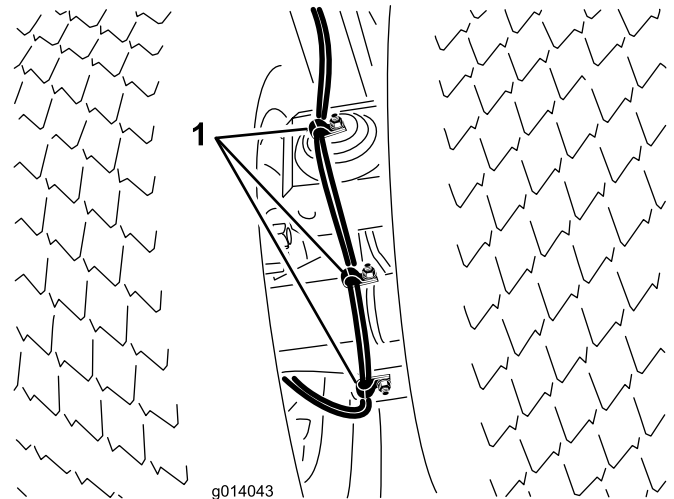

Figure 6
31. Secure the wire harness to the (3) studs on each side of the axle with R-clamps and lock nuts (Figure 6).